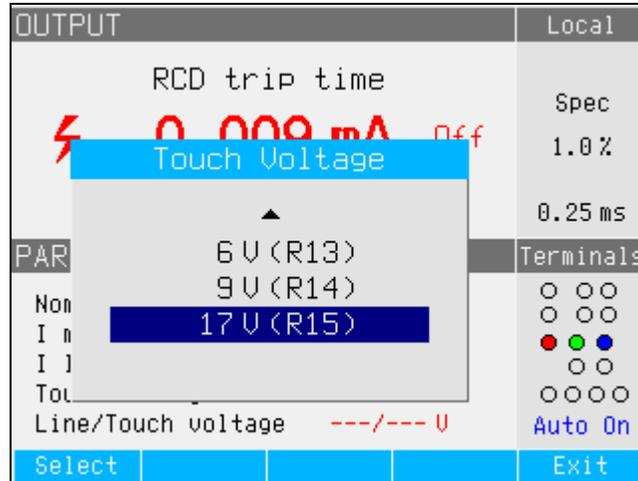

Figure 16. Touch Voltage
Touch voltage is the voltage difference between N and PE potentials. DUTs can usually measure this voltage and display it as a measured value or detect crossing over the safe voltage level (25 V to 50 V typical) with an indication of this event. Touch voltage generated by the Product depends on selected series resistance and setup nominal trip current. It is scanned and displayed in this field. See Figure 16.
3. Push **Exit** to return to the RCD calibration main screen. See Figure 16.